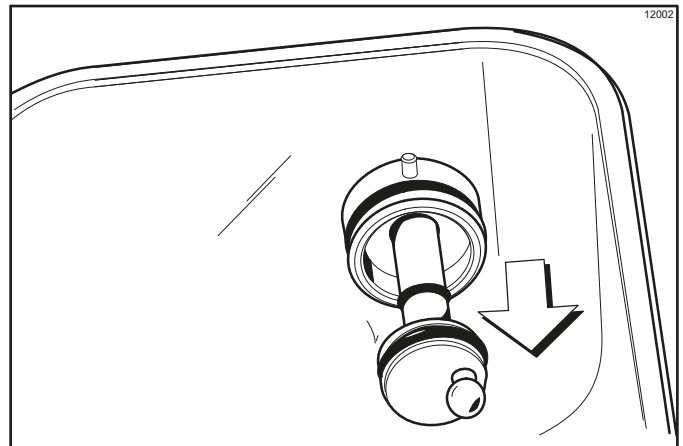

Figure 6-56
6. Remove the pump driveshafts from the drive hubs in the rear wall of the mix hoppers. (See Figure 6-56.)